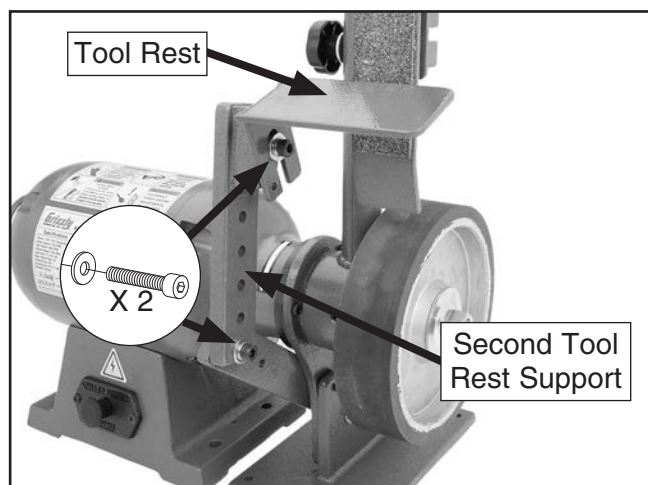

Figure 17. Tool rest installed.
18. Position the second tool rest support so that its flat face is against the first support, then secure it with the (1) $\frac{5}{16}$ "-18 x $1\frac{1}{4}$ " cap screw and flat washer removed in **Step 16**, as shown in **Figure 17**.
19. Secure the tool rest to the support assembly with the remaining $\frac{5}{16}$ "-18 x $1\frac{1}{4}$ " cap screw and flat washer, as shown in **Figure 17**.